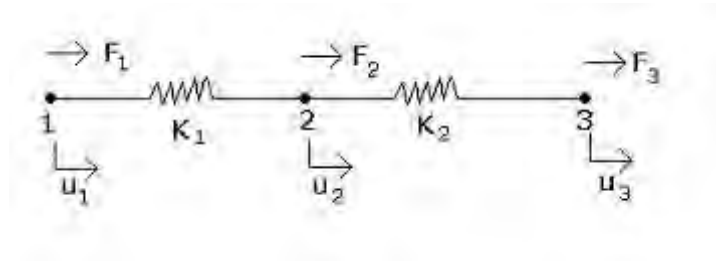

Figure 7
7. For a system of two springs shown in figure 7, Derive the system stiffness matrix and displacements at all node points. [16]